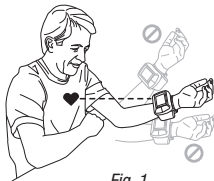

Fig. 1
1. Rest your elbow on a solid surface with your palm facing upward. Elevate your arm so that the cuff is at the same level as your heart, Fig. 1. Relax your left hand.